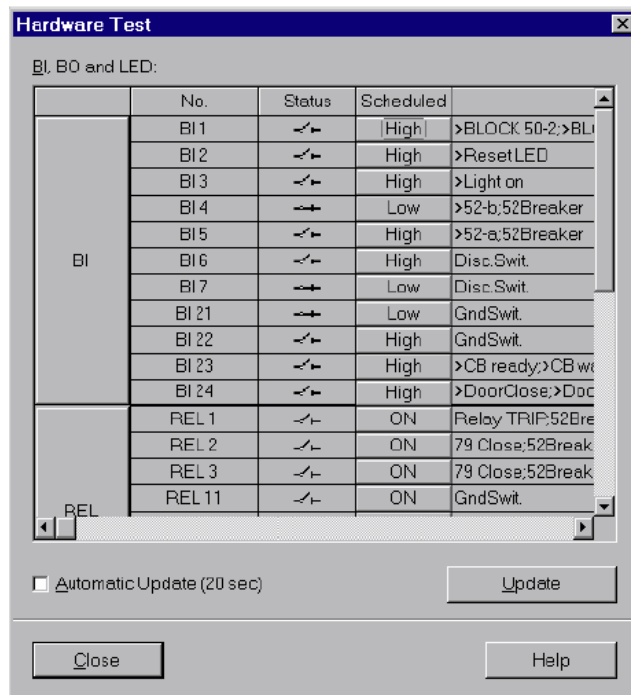

Figure 3-22 Test of the Binary Inputs and Outputs — Example
- Double-click in the list view on **Device inputs and outputs**. The dialog box with this name is opened (see Figure 3-22).